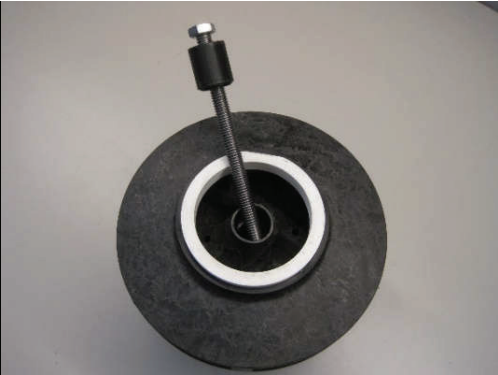

Fig. 5, 6,
4. Turn the impeller assembly over and insert the bolt with plastic bushing through the eye of the impeller and thread it into the prong release tool until snug. Use a 9/16" socket & ratchet wrench. **Caution: Do not overtighten.** See figures 5 thru 8 below.